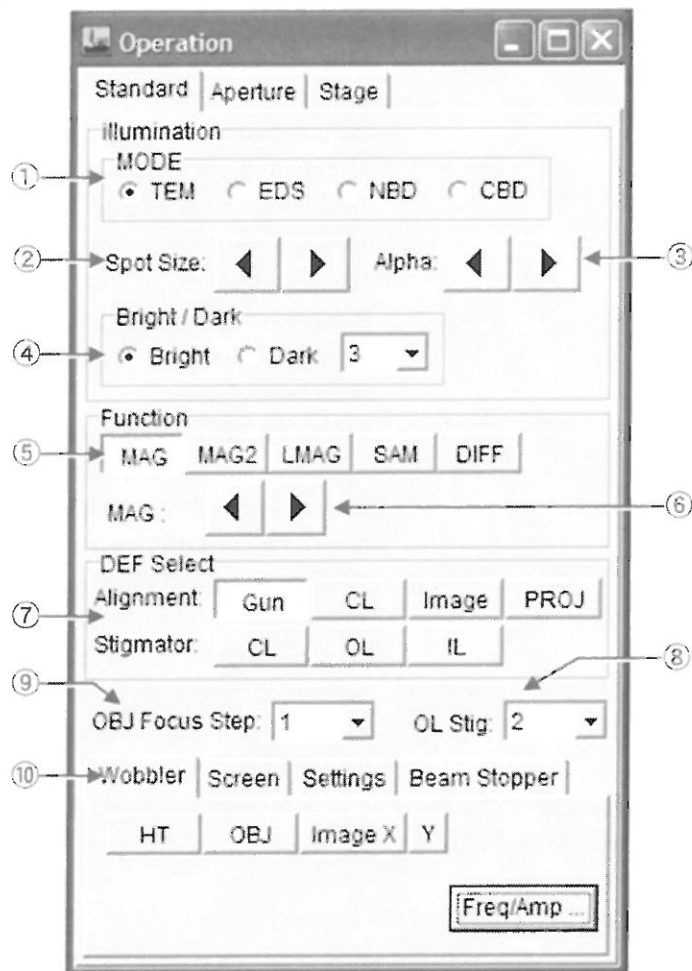

Fig. 4.33 Operation (Standard) window
⑤ FUNCTION
Select an image forming mode from these buttons. The magnification, camera length and energy dispersion of the selected mode can be changed using MAG/CAM L (R1-⑥ or Fig. 4.33-⑥). The magnification, camera length and energy dispersion will be recorded. Therefore, when it is returned to the previous mode after changing it to other mode, it will be set to the recorded magnification, camera length or the energy dispersion (except for MAG2).
⑥ MAG
This switch enables you to change the normal magnification when you select MAG1 or MAG2 for FUNCTION (R1-②, Fig. 4.33-⑤), the ultra low magnification when you select LOWMAG, the selected area magnification when you select SAM, and the camera length when you select DIFF. When the "▶" button is pressed once, the spot size becomes 1 step larger. It will be 1 step smaller when the "◀" button is pressed once. (It is the same as R1-⑥)
⑦ DEF Select
- ② MAG2
Clicking Store when FUNCTION (R1-③ or Fig. 4.33-⑤) is MAG2, sets the present magnification as the default magnification of MAG2.
- ③ STD Focus